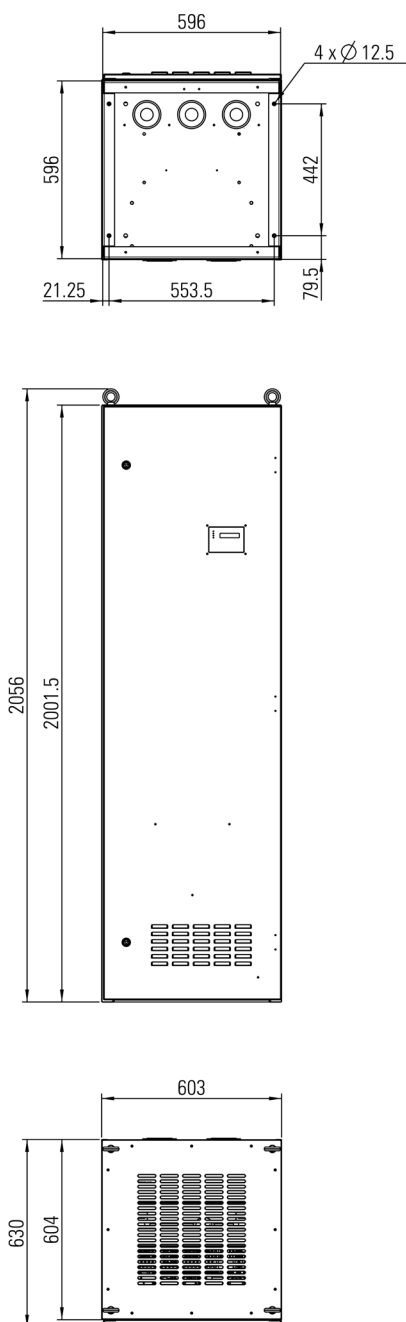
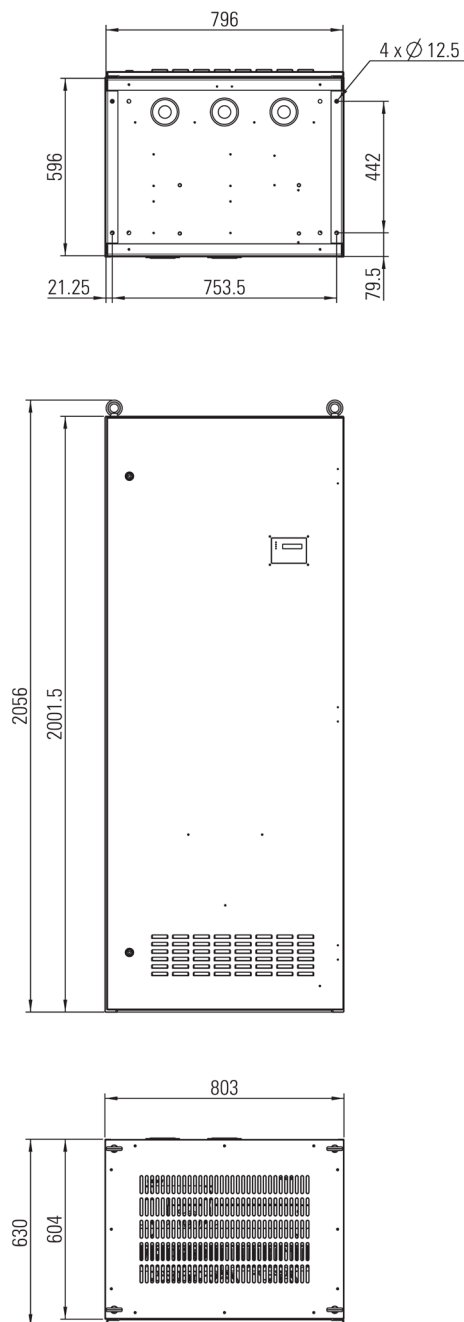

Fig. 8. Cabinet dimensions 650 x 615 x 2120 mm
Fig. 9. Cabinet dimensions 650 x 815 x 2120 mm.
- ❑ The standard cabinet supplied is rack type with a base measuring 600x600 mm (see Fig. 8) or 600x800 mm, (see Fig. 9).